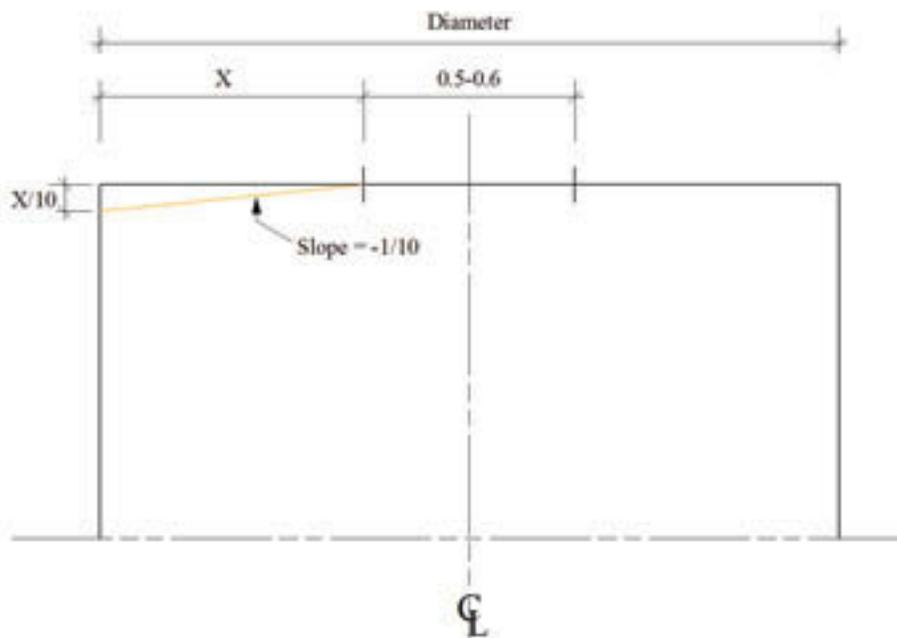

Fig. 76: Tank shape, top — Step 2
2. Draw the top of the tank; it slopes down 1–2 cm for every 10 cm of distance (slope =  $-1/10$ ) (figure 76).